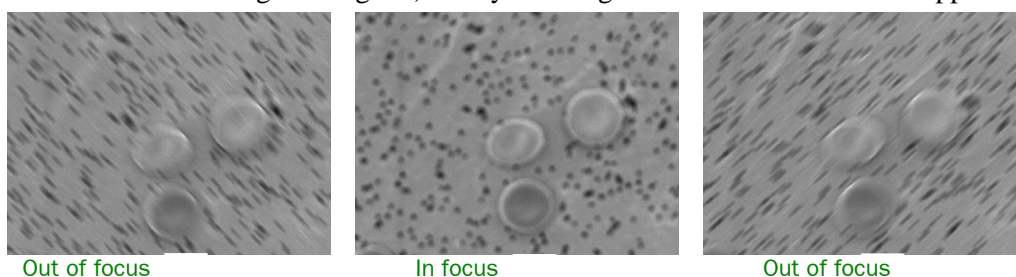

Fig. 57 Images with astigmatism
If the image has astigmatism, the image expands diagonally when you try to focus it (as shown on the left and right in Fig. 57). Carry out astigmatism correction if this happens.
1. Turn the FOCUS knob to adjust the focus to the position where the distortion does not appear. (as shown in the center of Fig. 57).